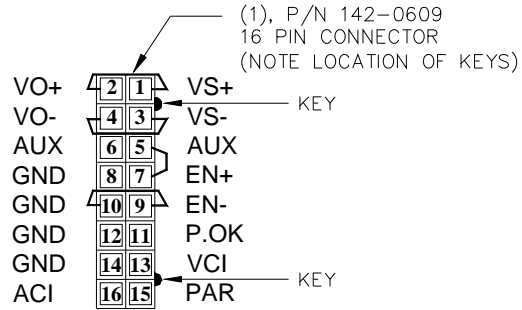

FIGURE 1. MATING CONNECTOR FOR CN9
3. Install terminated ends of wires into mating connector provided in this kit as specified in Table 2 to activate desired power supply function. Refer to Figure 1 for pin locations (observe key location to identify proper pin). Note that removal of default jumpers means that function must be restored by making connections via the mating connector using the wires supplied.
(1) Alternate pins for AUX (5, 6) and GND (8, 10, 12, 14) are available. See Figure 1.
(2) See applicable data sheet for connections.
(3) Current sharing between two power supplies requires two separate kits.